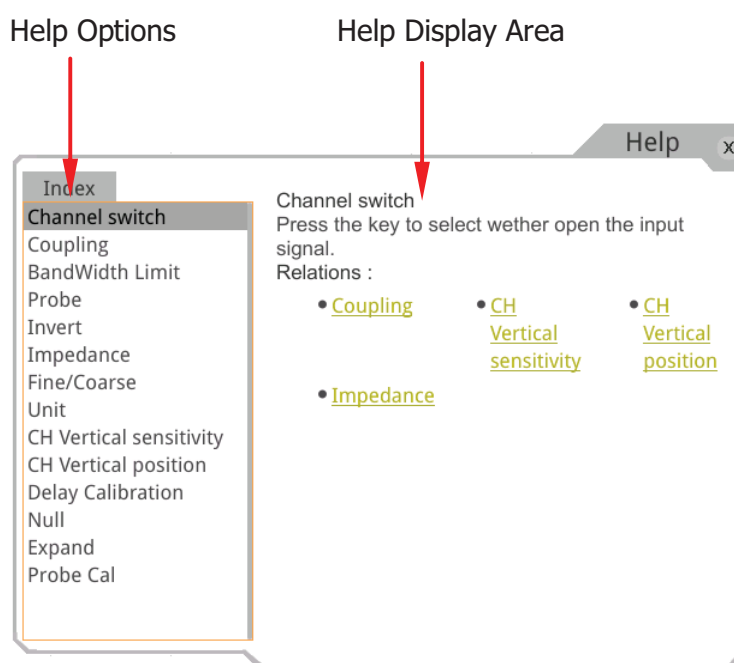

Figure 16 Help Information
3. Press **Help** on the front panel or touch the "Help" icon, and then the help information is displayed on the screen, as shown in Figure 16. The help interface mainly consists of two sections. The left section lists "Help Options", and the right section is the "Help Display Area".